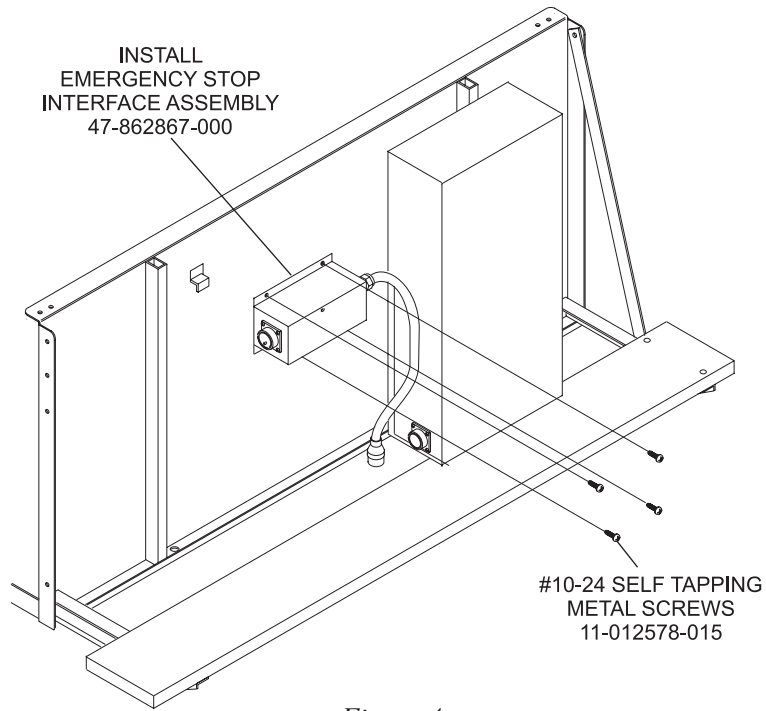
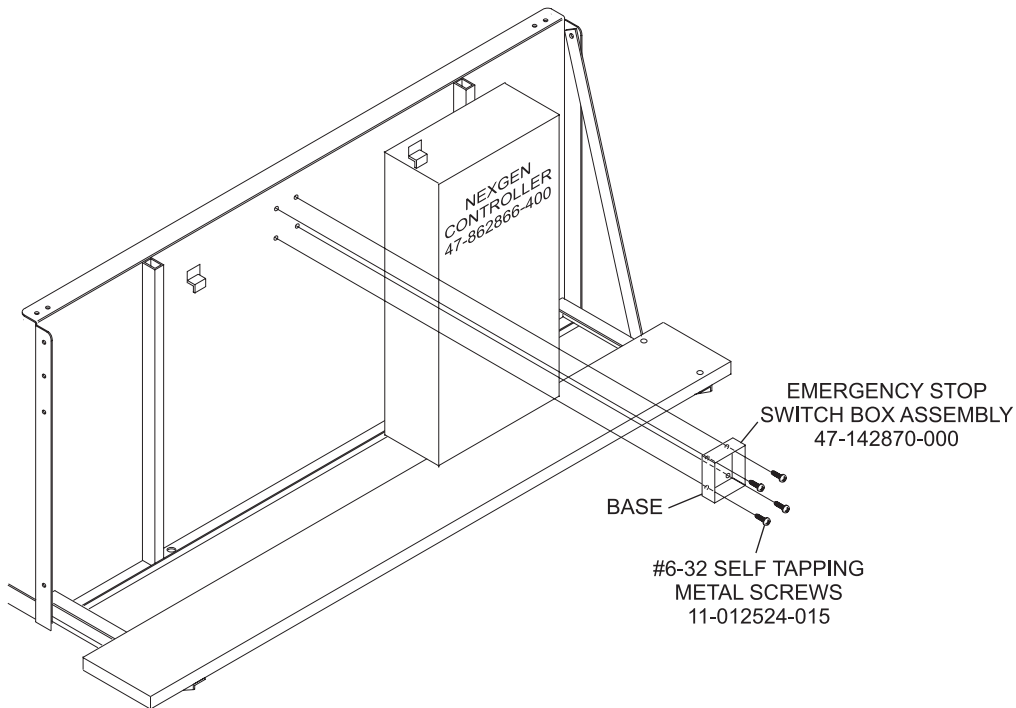

Figure 4
Figure 16
3. Install the Emergency Stop Interface Box assembly to the pinsetter. Refer to *Figures 4 & 5*.
6. Use the #6-32 self tapping metal screws, part number 11-012524-015, provided to mount the box to the front frame of the pinsetter. Refer to Figure 4. Replace the outer cover for the box using previously removed screws after the back cover is secured to the pinsetter front frame. Refer to *Figure 16*.